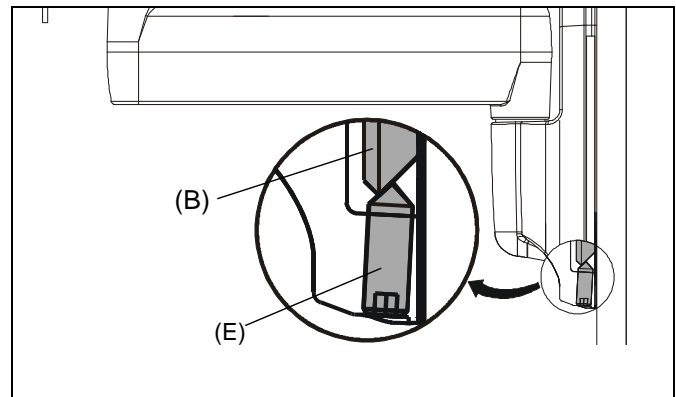

Figure 3
7. Using the 5/32" hex key (F), secure the KSA1001 to the wall bracket (B) by tightening the set screw (E). (See Figure 3)